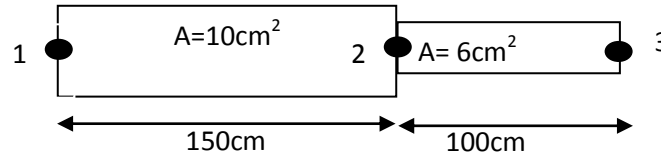

Figure.8
- 8 An axial bar with non-uniform section shown in the figure.8. Treating this as consisting of two bars, obtain the stiffness matrix and Condense out the internal degree of freedom by Gauss elimination procedure.